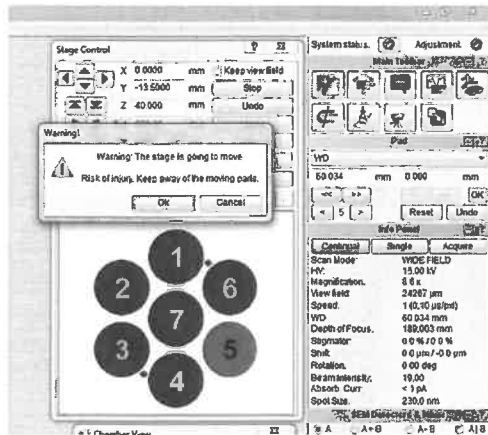

Figure 5. Stage During Chamber Venting
- e. When the chamber is fully vented and with gloves on any hand(s) entering the SEM chamber, open the chamber door. With the chamber vented, the SEM stage position will change from green to red. Selecting a stage position will prompt the user to ensure his hands are free from the stage before repositioning the stage. Clicking on a stage position will move the stage to the loading position for that sample (Figure 5).